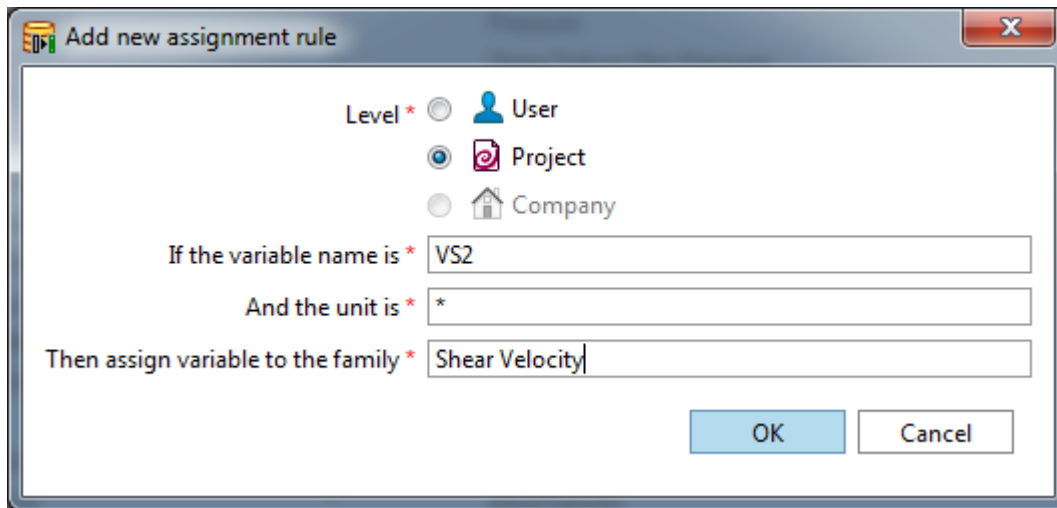

Figure 13. Window for adding new assignment rule.
5. In the Add new assignment rule window that appears (Fig. 13)